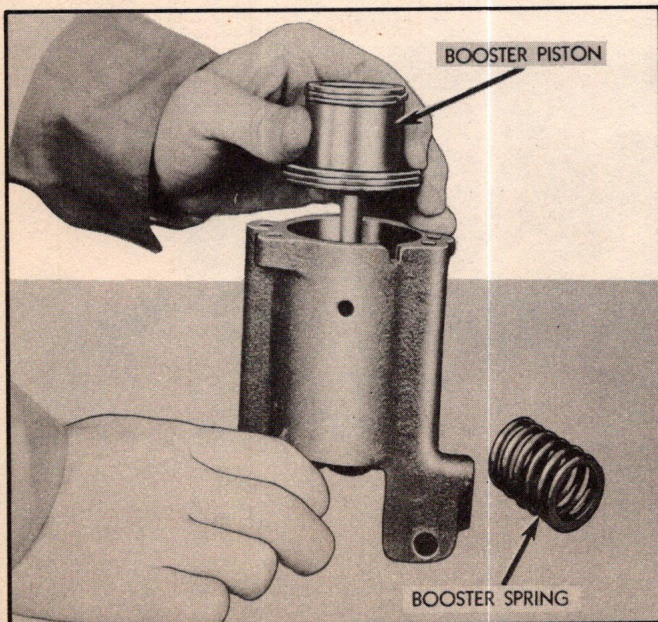

Fig. 172—Removing Booster Piston
7. Remove booster spring and booster piston from servo body (Fig. 172). Do not cock piston in bore.